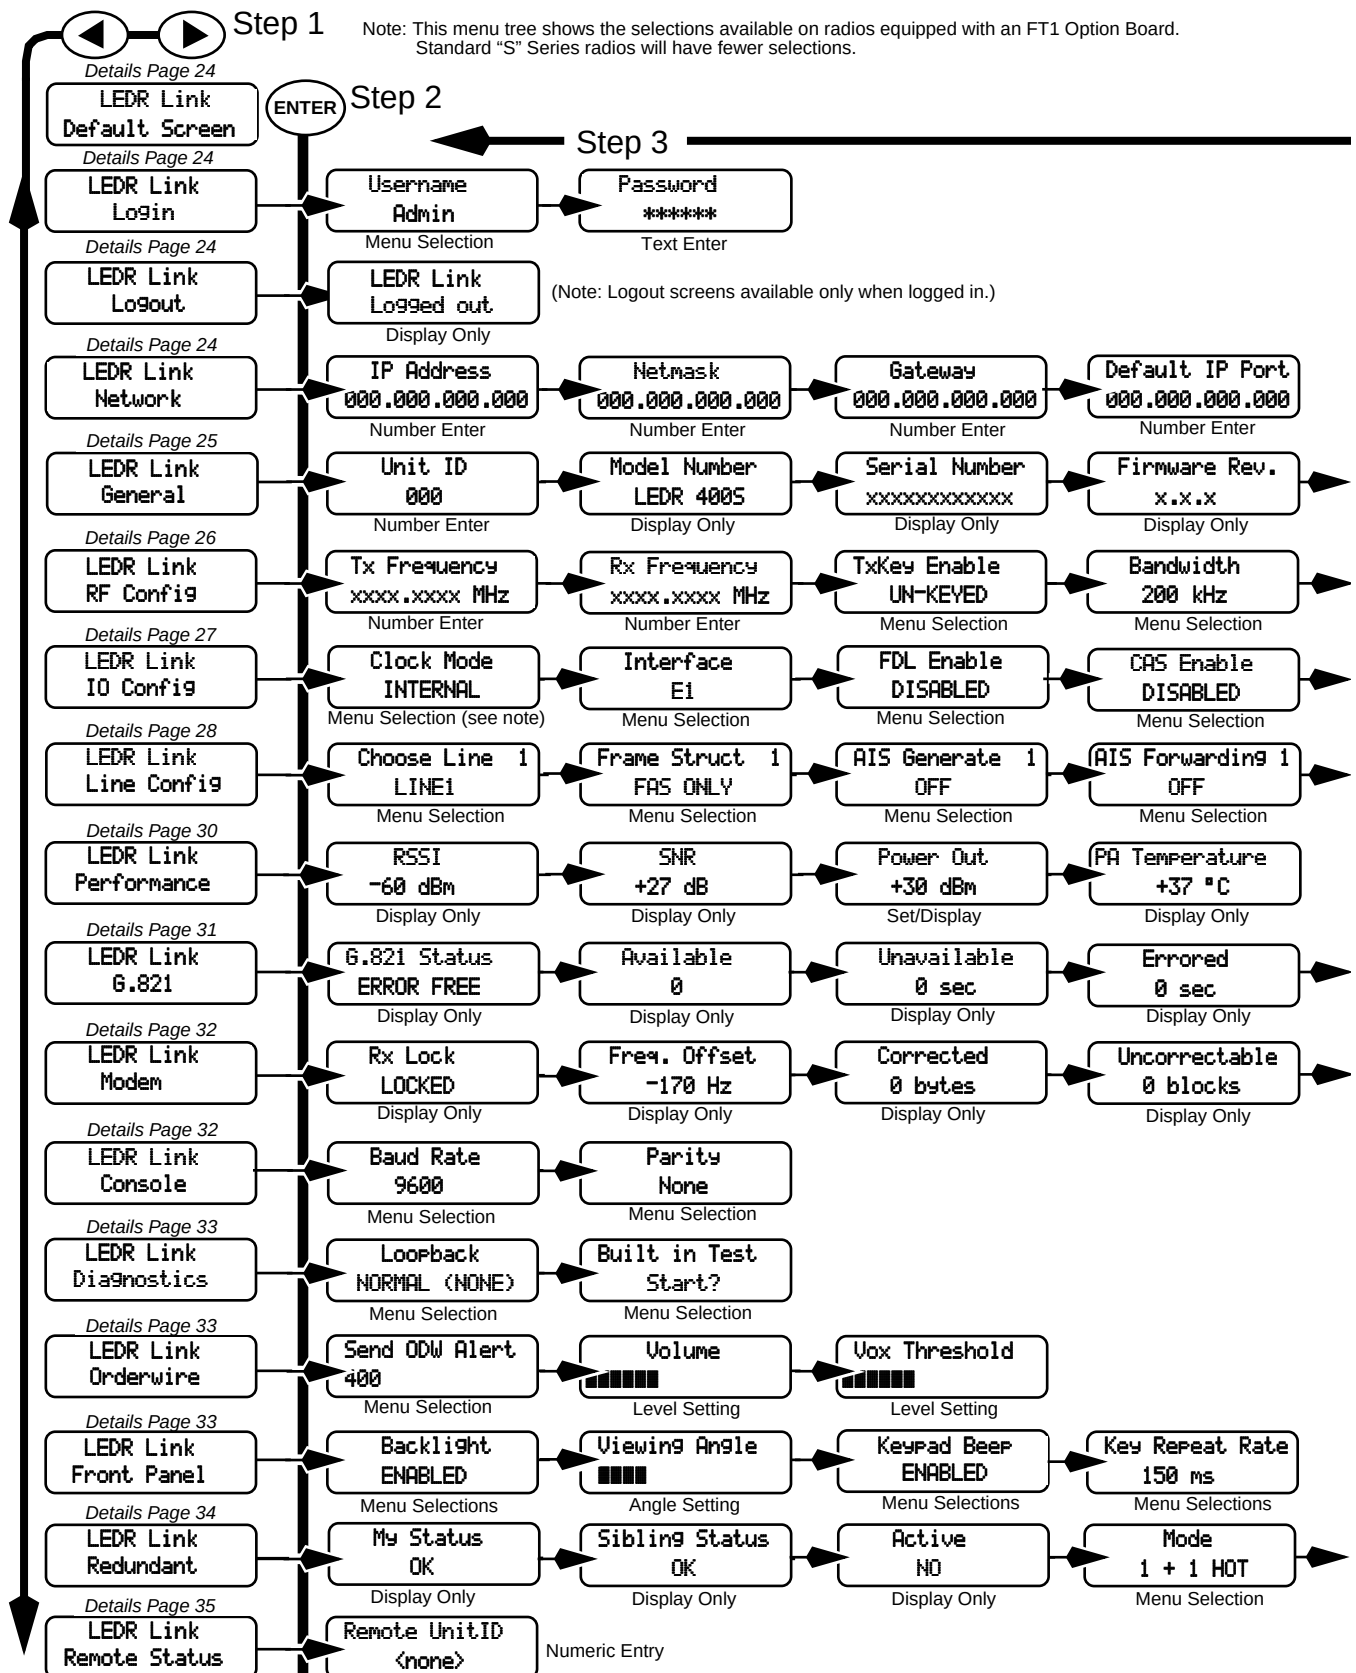

Figure 14. Front Panel LCD Menu Navigation
The user may now access any of the screens shown in Figure 14 with Administrator level privileges (the highest allowable user level).
- **Navigation Mode**—This is the default mode. The left and right keys (◀ ▶) navigate through the available top level screens (see menu tree, Figure 14). The **ENTER** key allows entry into a screen, exposing another level of menus or entering edit mode for a radio parameter. The **ENTER** key always exits the current screen, causing the program to “pop out” one level.
Figure 14 on the following page shows a pictorial view of the front panel menu tree. Detailed explanations of the screens are given in Section 3.3, *Front Panel LCD Menu Descriptions* (beginning on page 24).